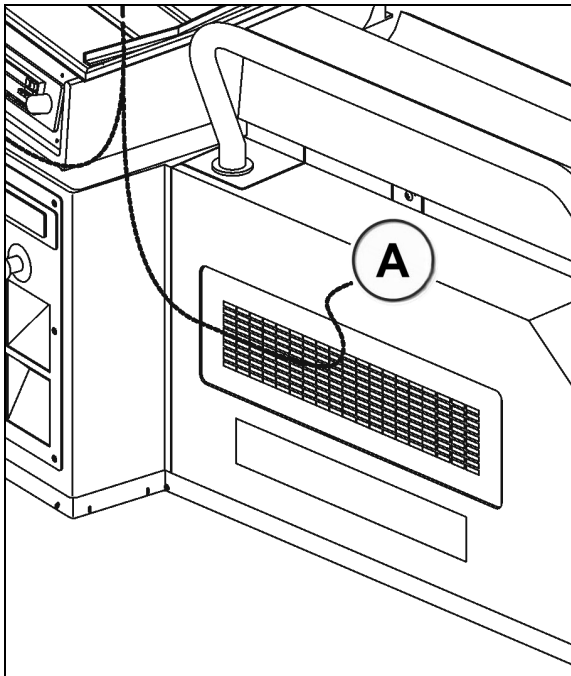

Figure 4 : « A » Routing
4. Route harness towards the left up to RH console and RH dashboard.(Fig 4)